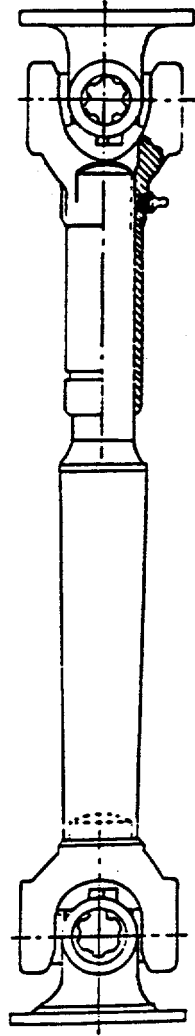
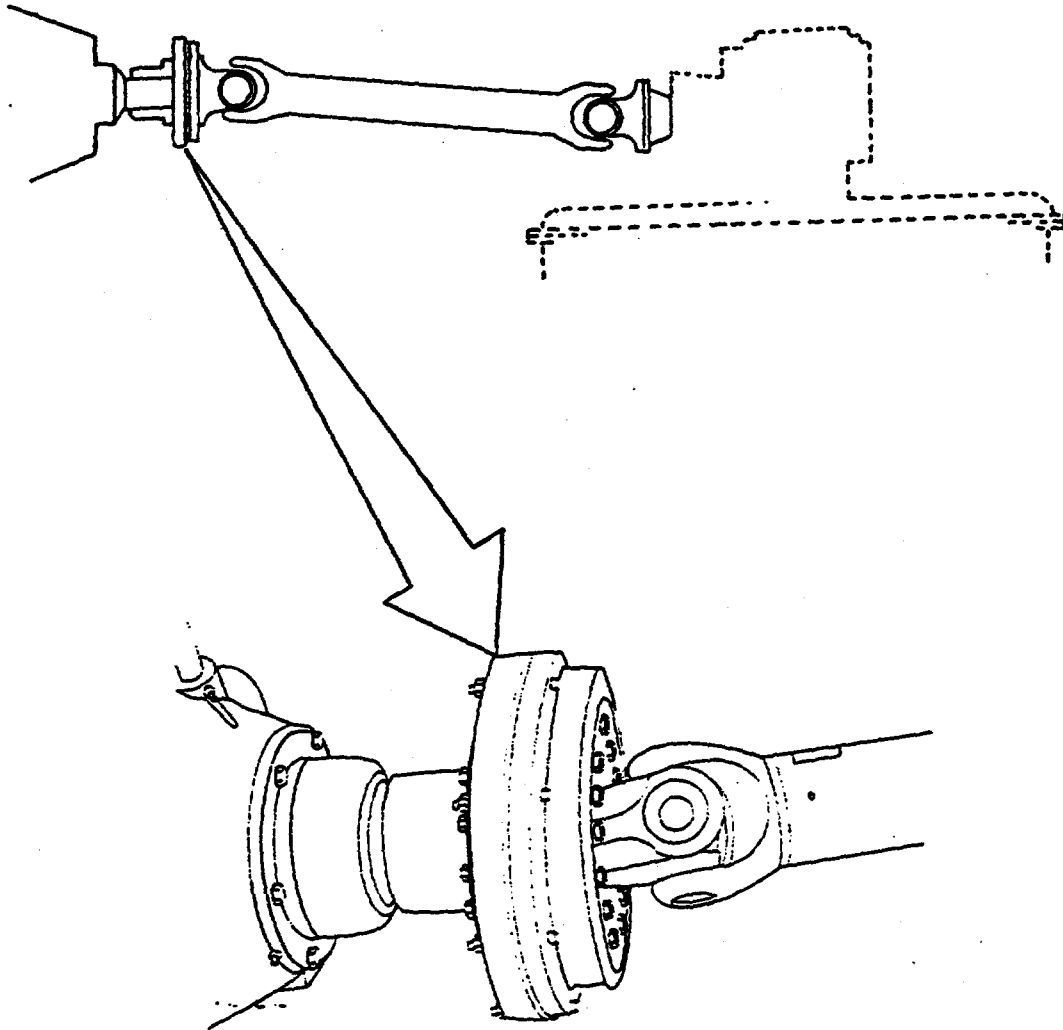

FIGURE 1-4. Drive Shaft.
FIGURE 1-5. Engine Interface.
c. Drive Shaft. (FIGURE 1-4). A drive shaft transfers engine torque to the waterjet upper gear assembly. This steel tube has a U-joint at each end. One bolts to a flexible coupling on the engine power takeoff shaft (FIGURE 1-5). The other incorporates a flange which mates with the drive flange of the upper gear assembly. One end of the tube also includes a spline. Grease fittings are provided at each U-joint and at the spine.